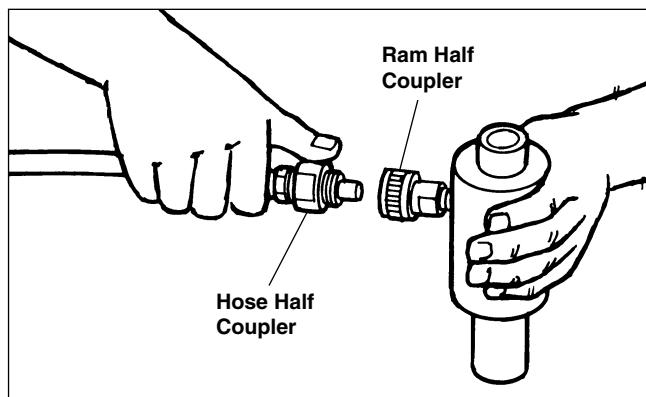

Figure 1 – Hydraulic Connections
2. Connect the hose half coupler at the end of the hose to the ram half coupler on the cylinder. Turn the collar completely on hand-tight (Figure 1).